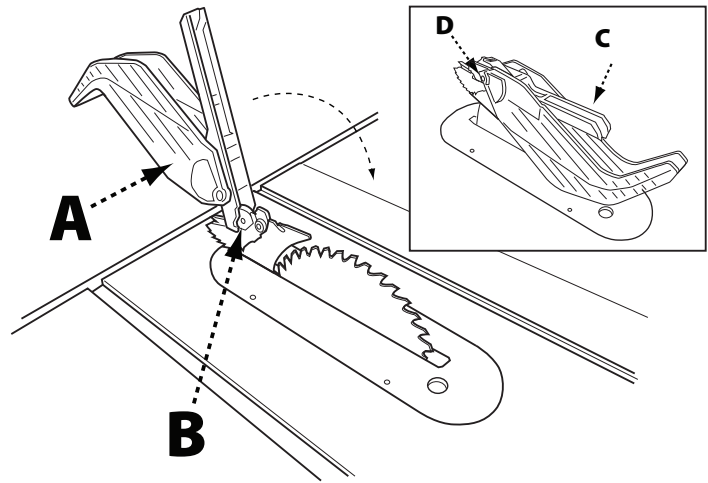

FIGURE 10
1. While holding the blade guard assembly (A) in a vertical position, hook the locating pin (B) at the back end of the blade guard assembly into the slot at the back edge of the riving knife.
2. Rotate the blade guard assembly toward the front of the saw until the metal portion (C) of the blade guard assembly is parallel to the table as shown in Figure 10.
3. While holding down on the front of the metal portion of the guard (C) press the blade guard lock lever (D) down until it snaps into the locked position. Check to make sure the guard is locked onto the riving knife by pulling on the guard. If the guard is not locked, the blade guard lock lever will flip up to the unlocked position.